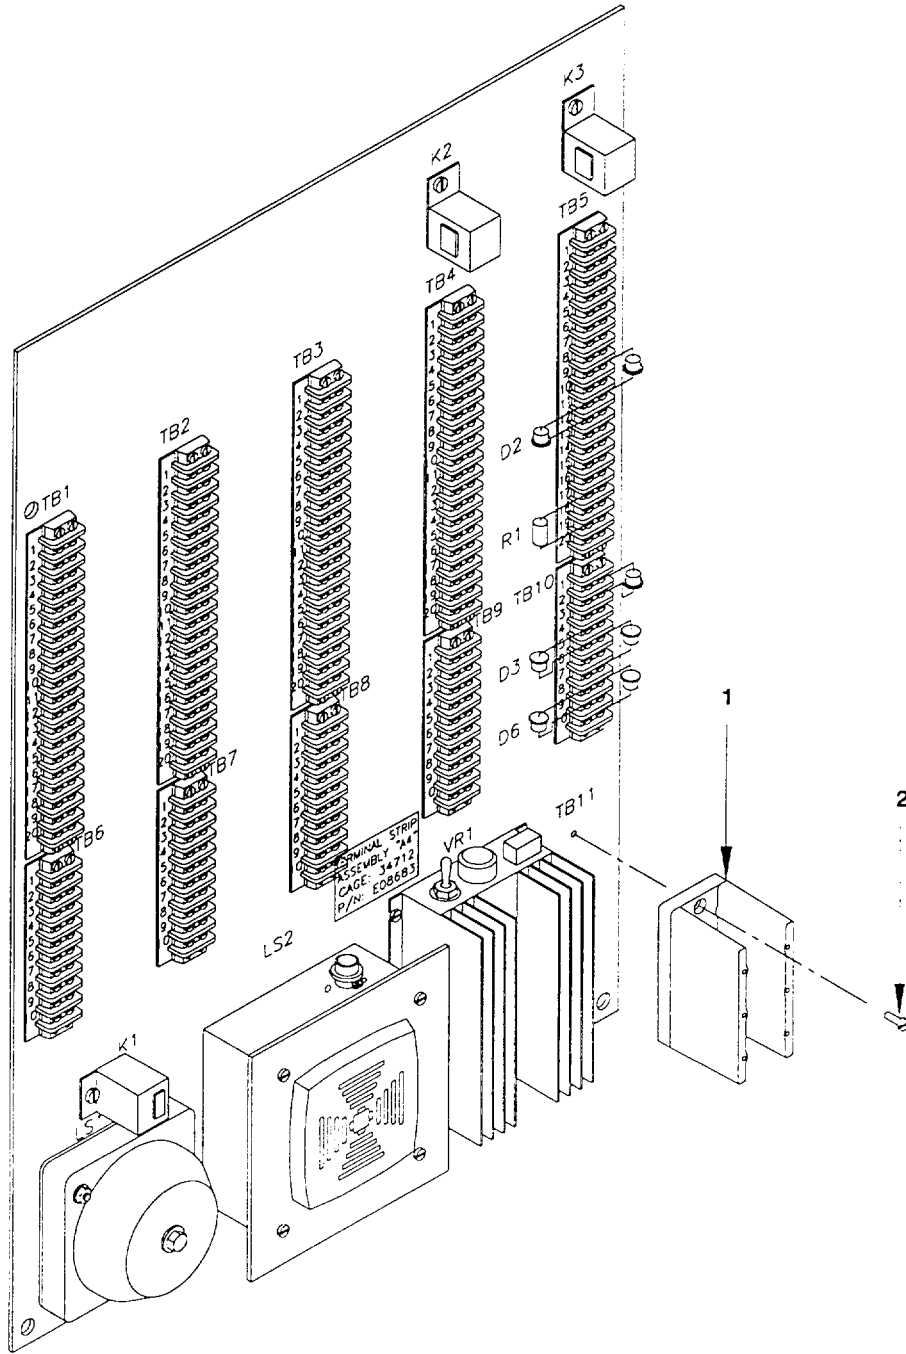

Figure 2-140. Power Distribution Block, Terminal Strip "A4". Remove/install
- a. *Remove.* (figure 2-140)
- (1) Tag and disconnect wiring from the block (1).
- (2) Remove pan head screw (2) to free the block (1).
- b. *Install.* (figure 2-140)
- (1) Position block (1) on terminal plate. Apply antiseize compound to four pan head screws (2). Secure each terminal block (1) with four pan head screws (2).
- (2) Connect wiring to block (1) as previously tagged. Refer to Terminal Strip "A4" Assembly in Appendix G for wiring diagrams. Use tie wraps and mounting bases to secure any loose wiring.